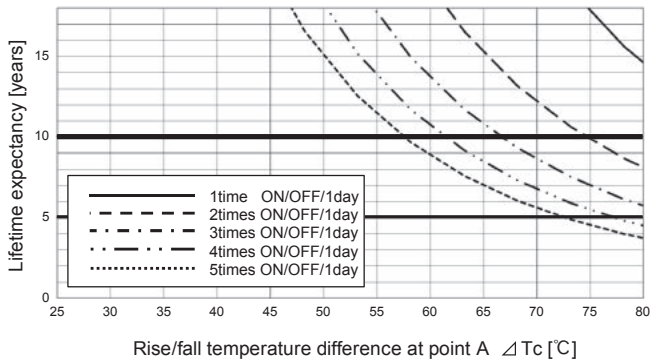
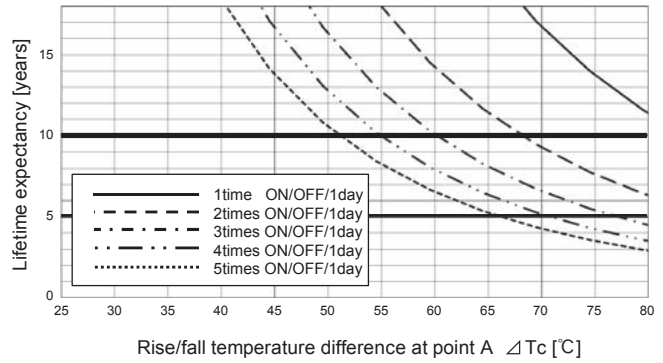
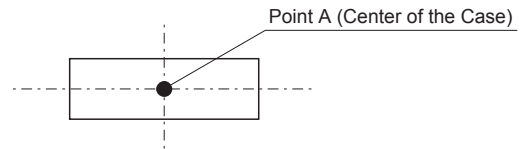

Fig.9.1 Lifetime expectancy against rise/fall temperature difference (MG1R5)
Fig.9.2 Lifetime expectancy against rise/fall temperature difference (MG3)
Fig.9.3 Temperature Measuring Point on the case (Top View)
■ Product lifetime expectancy depends on case temperature difference ( $T_c$ ) and number of cycling in a day is shown in Fig.9.1, Fig.9.2 (It is calculated based on our accelerated process test result.) If case temperature changes frequently by changing output load factor etc., the above the lifetime expectancy design should be applied as well. And point A which is shown in Fig.9.3 must keep below 110°C.
■ The warranty period is basically 10 years, however it depends on the lifetime expectancy which is shown in Fig.9.1, Fig.9.2 if it is less than 10 years.